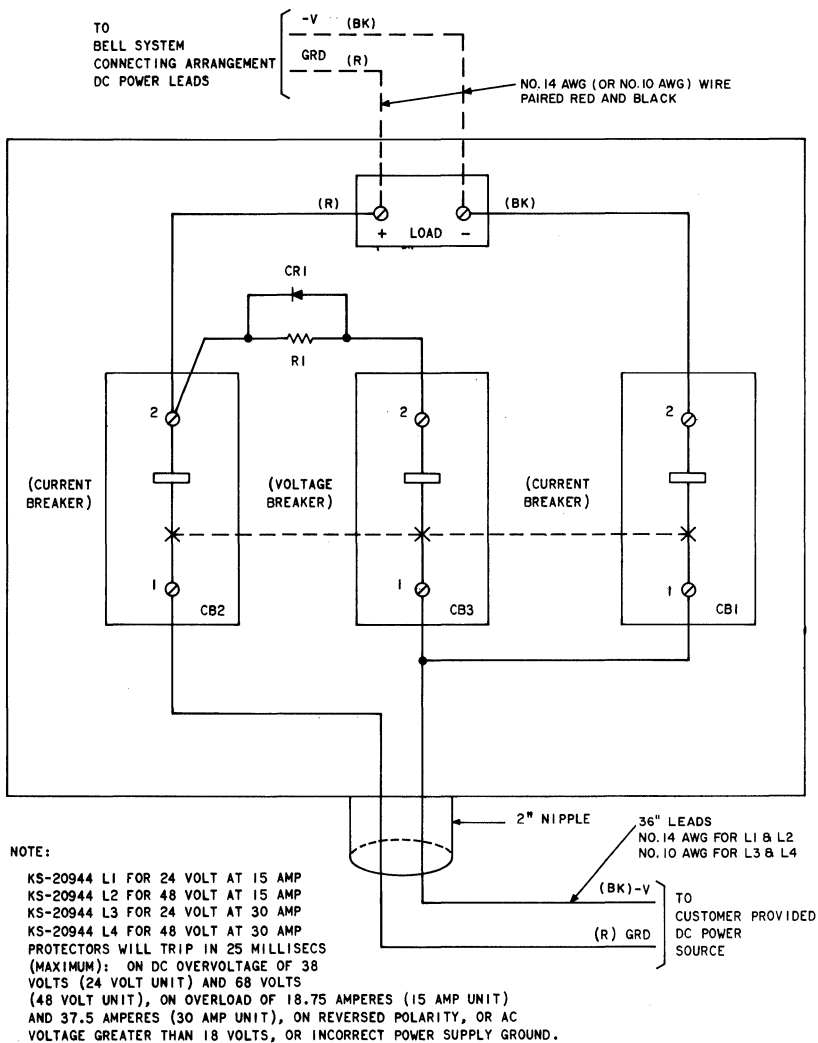

Fig. 6—Schematic Diagram—KS-20944 Protector
**3.15** Connect as shown in Fig. 6 following local wiring instructions. The customer must connect his power supply to the red (+) and black (-) 14-gauge leads extending from the unit.